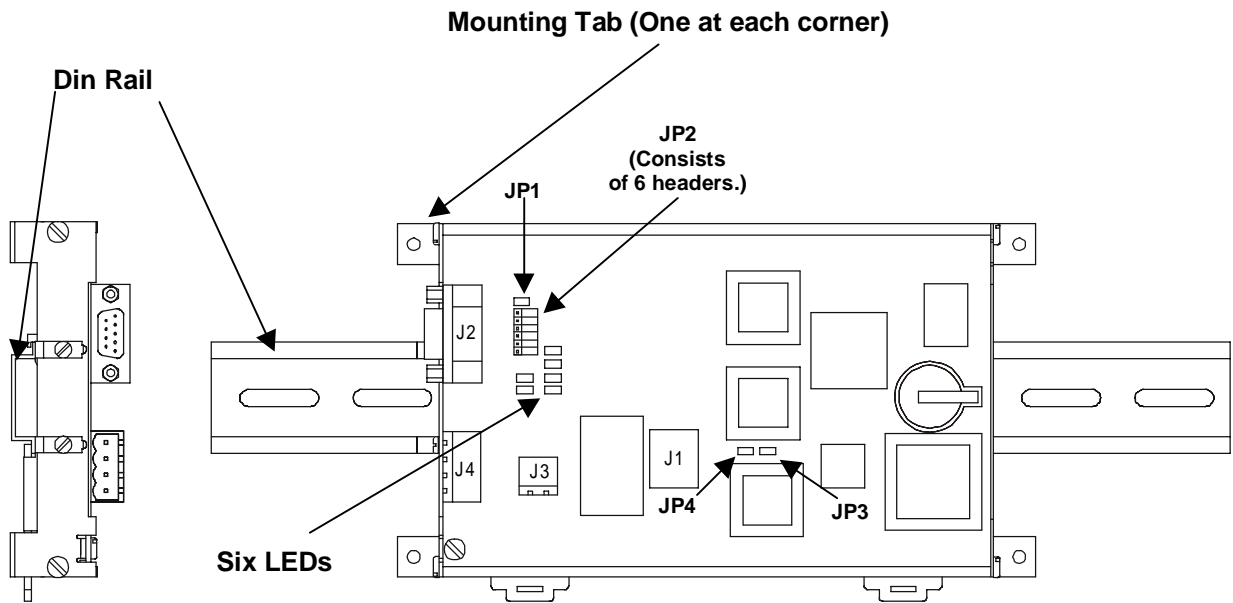

Figure 8.6 – Installing GEN251
Note: Be sure to configure the jumpers on the GEN250 card before installing it in the drive. See Figure 8.6 (for location of jumpers) and Section 7.3.
Note: Be sure to configure the jumpers on the GEN251 card before installing it. See Figure 8.6 (for location of jumpers) and Section 7.3.
2. Mount the GEN251 assembly onto the DIN rail. (Figure 8.6.)